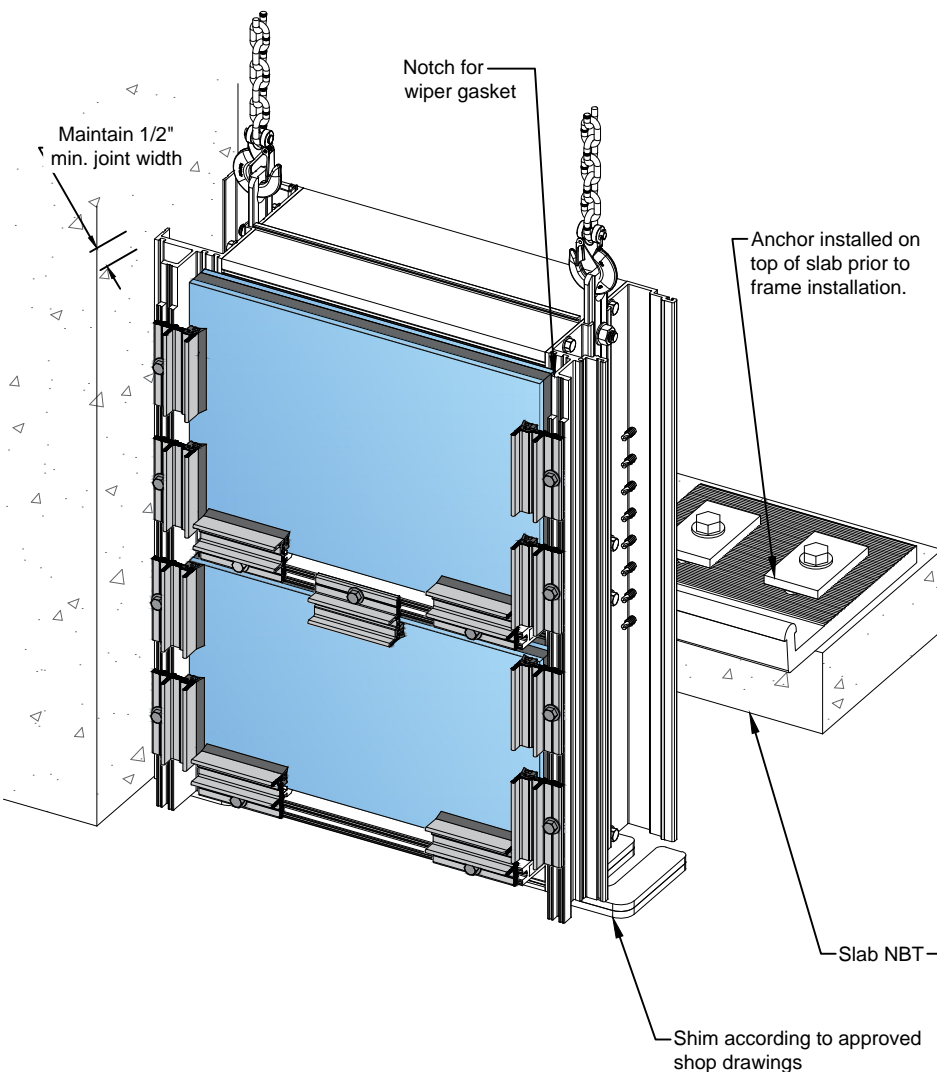

Fig. 46.1
- i. Set first frame unit in opening from the floor above, shimming at the sill according to approved shop drawings. Make sure the shim extends under the vertical mullion for proper dead load support. Check the jamb joint width prior to anchoring the frame unit to the building at the anchor point. See Fig. 46.1.